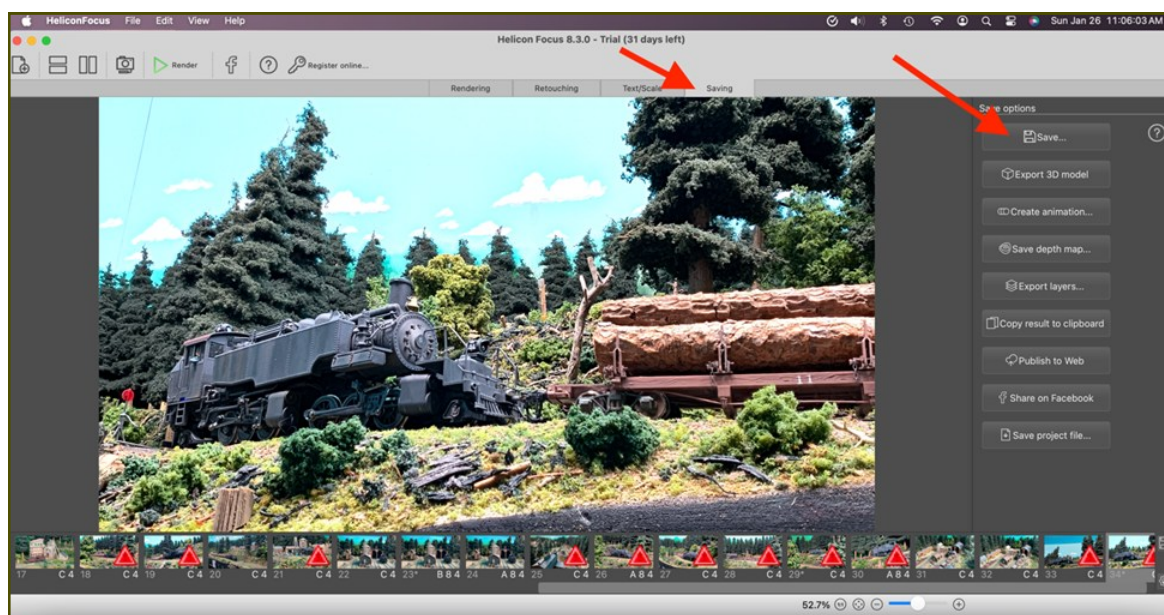

Figure 6 Saving the File
- Finally, if the rendered image looks OK, click on the “Saving” tab at the top (reference Figure 6), and then the “Save” button on the right. This will give you a standard file “save as” window and you can save the rendered file wherever you wish. You’ll also see a “save image quality” slider as part of the saving process. I used 90% and that seemed good enough. The 100% setting makes the file size twice as big.
Figure 6 – The locomotive has been painted and decals added. Uncoupler levers and air hoses were added to the pilots. The bell on the hood came from an old steam locomotive.